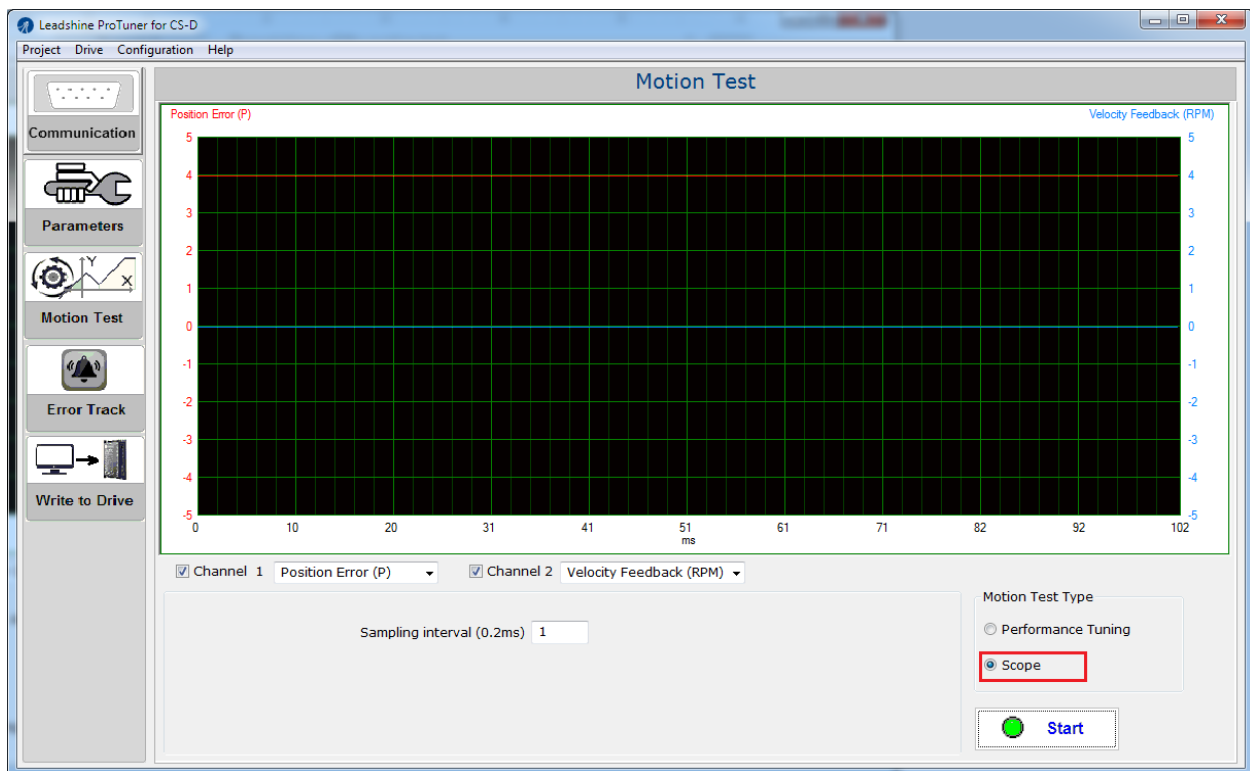

Figure 15: motion performance monitoring
- Select “Scope” option for “Motion Test Type” on the bottom right side. See Figure 15.